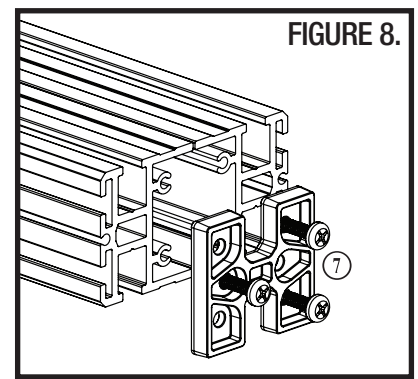

FIGURE 8.
- Screws 1/4"-20 (6)
- Oval Nuts 1/4"-20 (6)
1. Remove the Push Plate ⑦ from the end of the Saw Blade Side Track. **FIGURE 8.**
11. Slide the additional Clamping Handle ⑤ Clamping Stud into the Saw Blade Side Track from the end.
13. Install the Push Plate ⑦ in the end of the Saw Blade Side Track. **FIGURE 8.**